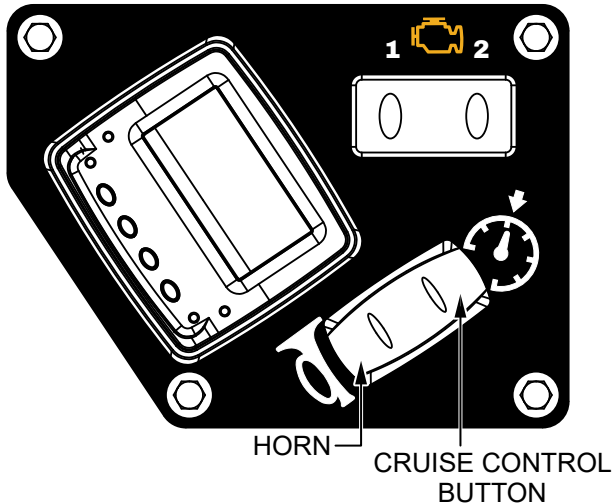

Figure 27. Cruise Control Button
2. Press the **cruise control button** (Figure 27).